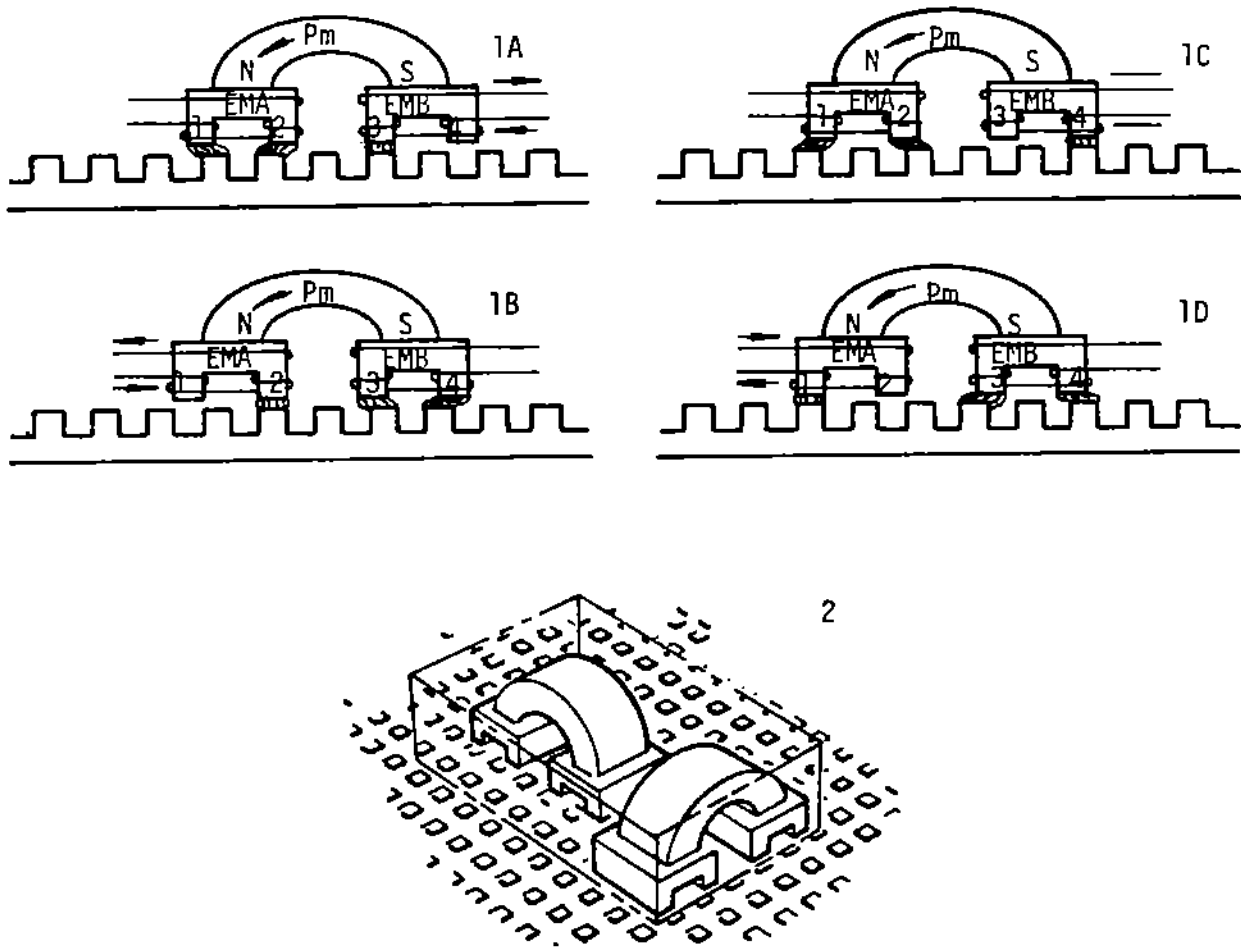
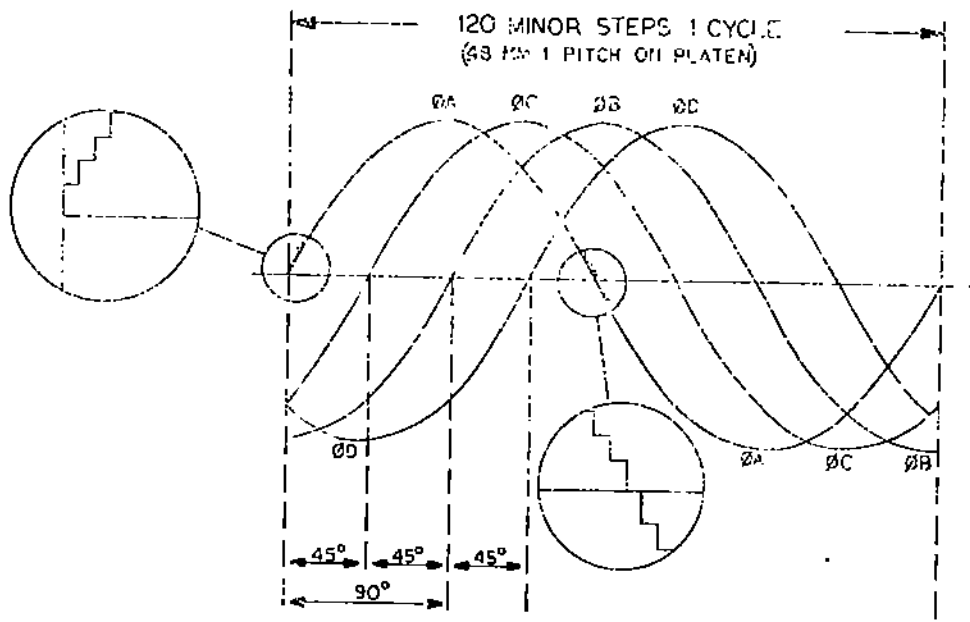

Figure 4-1. Full Cycle--Xynetics Motor
Figure 4-2. Motor Phase Relationships
The simplest mechanization of the Xynetics motor is shown in Figure 4-1(A). As illustrated, the positioner consists of a permanent magnet, PM, and two electromagnets, EMA and EMB. The platen is made of ferromagnetic material with a tooth pattern of similar geometry to the positioner. The permanent magnet flux closes its path through the electromagnetic stacks and the platen. The electromagnet flux closes its path through the electromagnet stack and
Excitation of electromagnet EMA opposes the flux through leg 1 and increases the flux through leg 2 to produce a net thrust force. Full current brings the air-gap density in that leg to a maximum, while the flux density of leg 1 is brought down to a negligibly small value. Leg 2 and the adjacent platen tooth have a side force which causes the motor to move one-quarter the distance between adjacent platen teeth, or one-quarter of a pole pitch. (Figure 4-1 (B))
When the currents in each coil are switched alternately and in alternating polarities as shown in Figure 4-1, the motor continues to move in quarter-pole increments. Figure 4-1 illustrates one complete cycle. Coil and drive currents of EMB are displaced 90 degrees with respect to EMA (Figure 4-2). If a Xynetics metric-spaced platen is used where center-to-center spacing is 0.004 mm, each electrical step (quarter-pole increment) causes a movement of 0.001 mm.
Each input pulse to the DAR causes a one-step movement of the positioner. As the DAR is stepped, the succession of current levels supplied to each coil appears as a staircased waveform which, to achieve proper positioning accuracies, is made sinusoidal rather than linear (Figure 4-2). As in simpler quarter-pole stepping schemes, the phase displacement between A and B is one-quarter cycle, or 90 degrees. (Table 4-1)
A and B, but are phased 45 electrical degrees from them. The advantage of this dual-motor arrangement in each axis is higher mean accuracy and greater positional stability. (Figure 4-2)